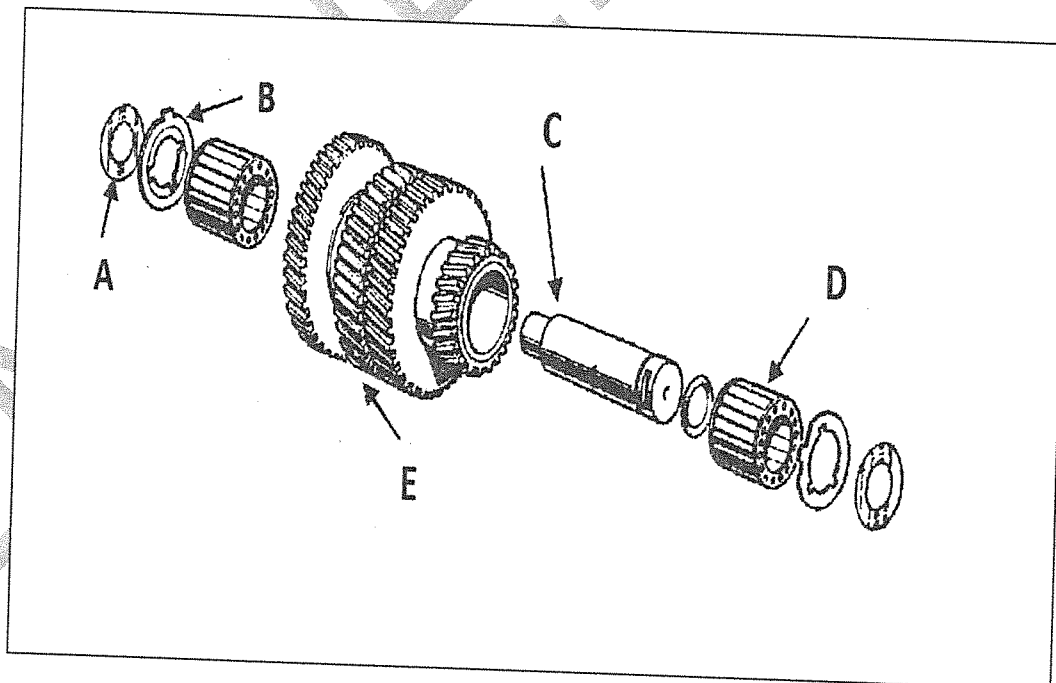

FIGURE 1
- 1.5 FIGURE 1 shows a Countershaft Gear assembly also known as a Cluster shaft Gear assembly.